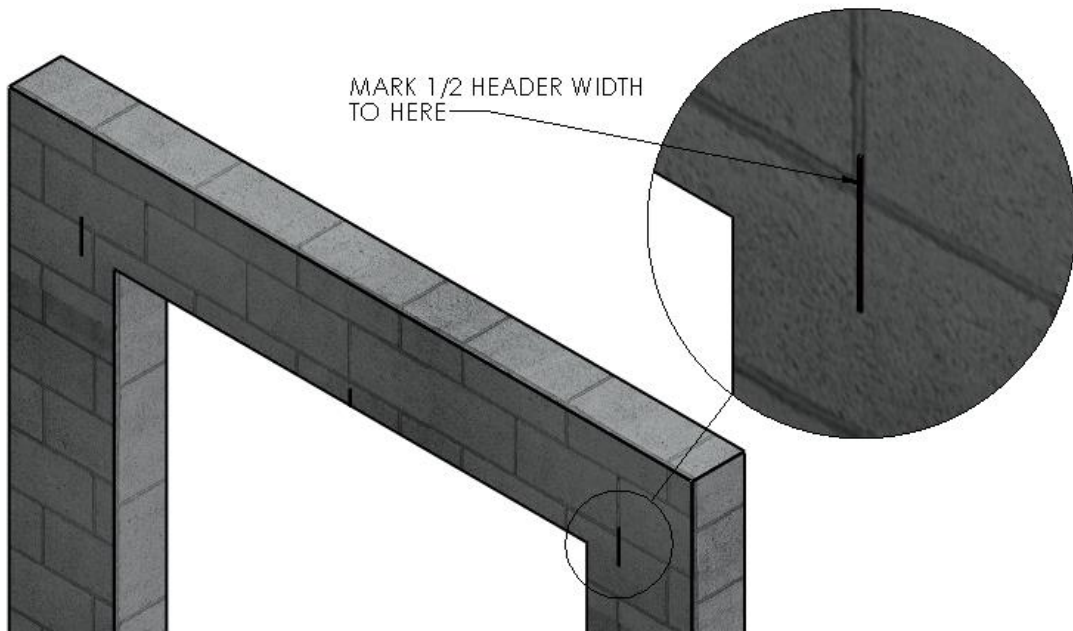

Figure 3 MARK DOOR WIDTH ON WALL
4. Divide that number by 2, and measure to each side of the center mark in step 1. Mark a vertical line at these locations. This is where the outer edges of the Header Bracket's Mounting flanges will be. (Figure 3 MARK DOOR WIDTH ON WALL)